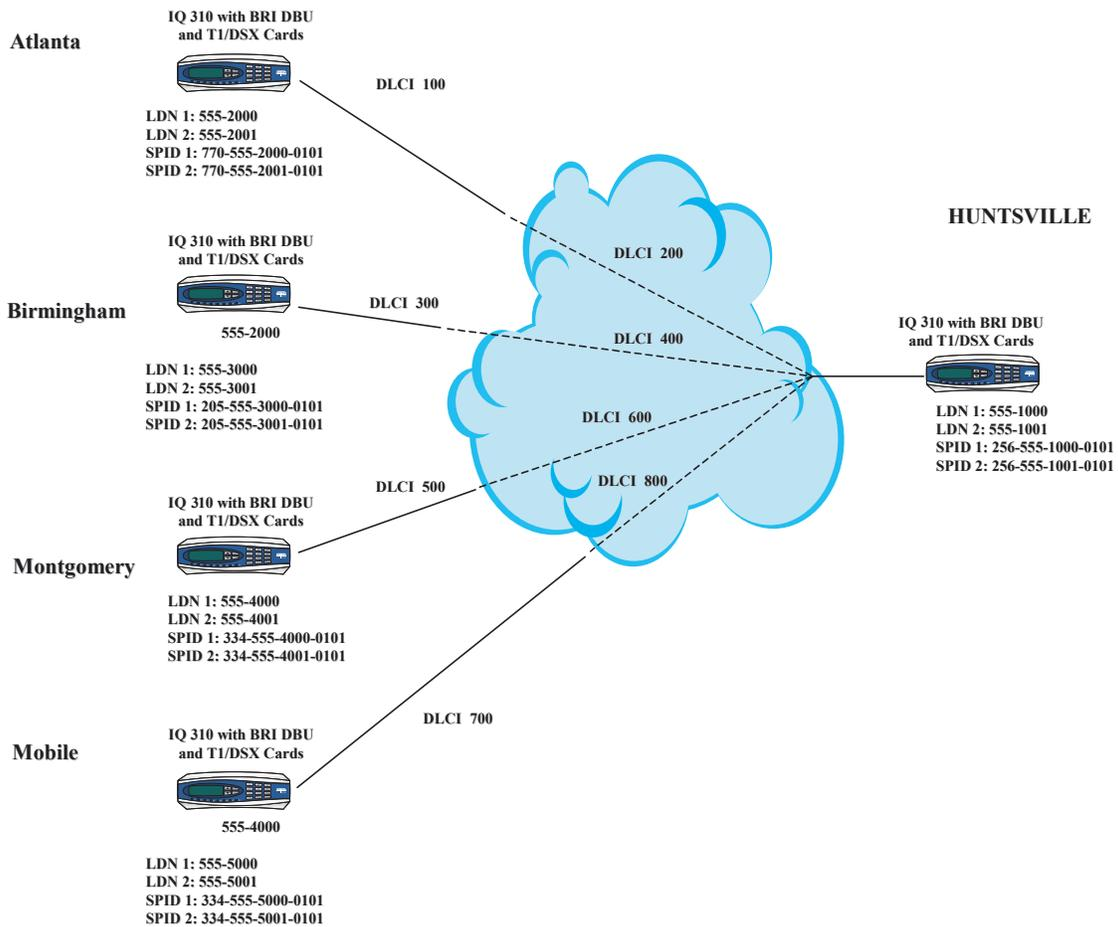

Figure 1. IQ 310 Frame Relay Dial Backup Call Order Example
2. Press 1 to select **SWITCH TYPE**; then press **<ENTER>**. A list of available switch types is displayed. *The switch type selected here must match the TELCO CO switch providing the ISDN service.* Select option 1 for **LUCENT 5ESS**, 2 for **DMS 100**, 3 for **NATIONAL**, or 4 for **NEC**; press **<ENTER>**. For the example network in Figure 1, we will assume the switch type for all units is **NATIONAL**, so press 3 and press **<ENTER>**.
4. Select option 3 and press **<ENTER>** to program the SPID. Enter the SPID assigned by the Telephone Company and press **<ENTER>**. For the example network in Figure 1, the proper SPID is 25655520220101.
5. Select option 4, **LDN**, and press **<ENTER>**. Insert the Local Directory Number provided by the Telephone Company and press **<ENTER>**. For the example network shown in Figure 1, the proper LDN is 5552022.
Figure 1 on page 228 is a diagram of the Frame Relay example network used in this configuration guide. In this example, the host site is Huntsville. Four Permanent Virtual Circuits (PVCs) originate from Huntsville. They are connected to remote sites at Atlanta, Birmingham, Montgomery, and Mobile via DLCIs 200, 400, 600, and 800, respectively. The local DLCIs for the remote sites are 100 for Atlanta, 300 for Birmingham, 500 for Montgomery, and 700 for Mobile. Please remember that DLCIs have local significance and are assigned by the Telephone Company (TELCO) when the Frame Relay network is built; therefore the DLCIs for your Frame Relay network will most likely be different from the ones used in this example.
The remaining parameters described in Figure 1 provide a description of the BRI lines that terminate into the IQ 310s. The Telephone Company will provide you with the Local Directory Numbers (LDNs) and Service Profile Identifiers (SPIDs) for each of your BRI lines. In addition, you must know which type of Central Office (CO) switch is providing the ISDN service.